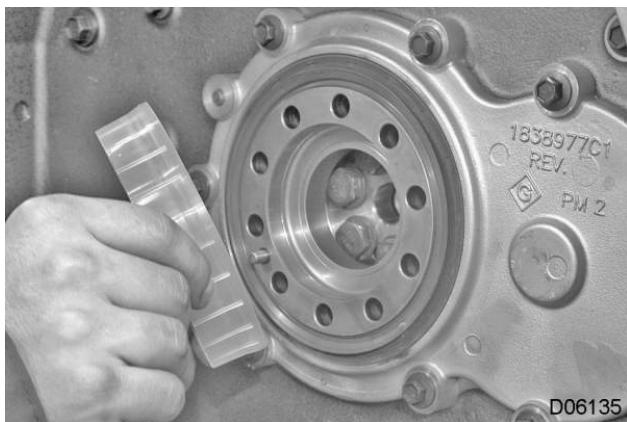

Figure 41 Remove Plastic Installation Tool
45. Remove the plastic installation tool (Figure 41) when the seal is fully installed.